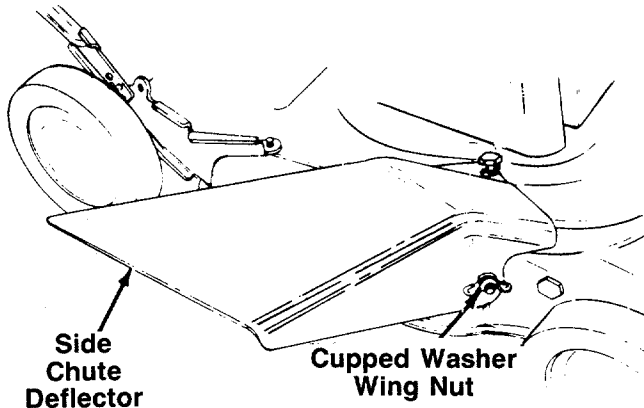

FIGURE 2.
2. Remove the side chute deflector from your unit by removing the two wing nuts and cupped washers which secure the chute deflector to the side of the deck. See figure 2. The hardware will be used for reassembly in step 4.